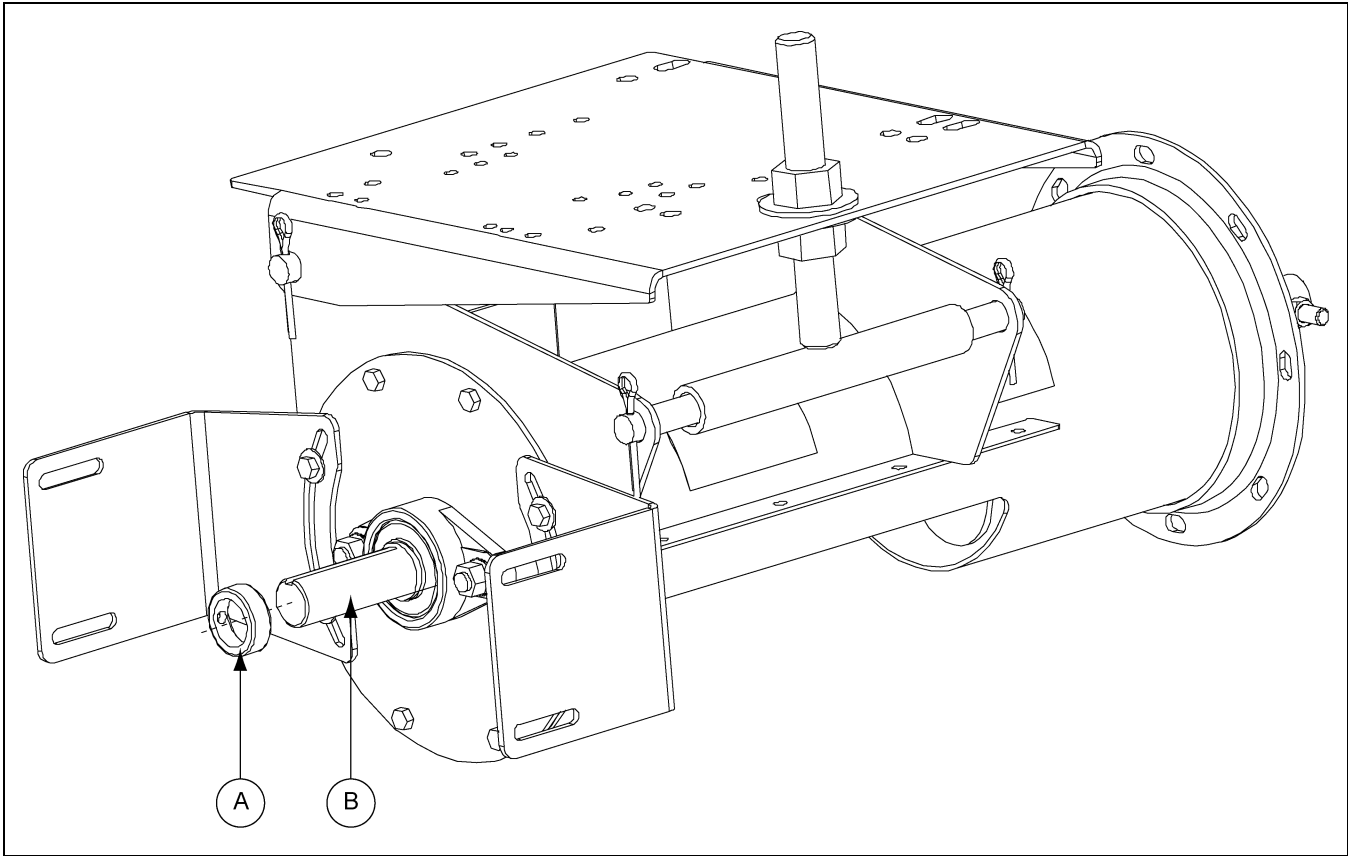

Figure 4H
1. Slide the lock collar (A) over the drive shaft (B), positioning it against the bearing. Do not tighten the lock collar at this time as it will be tightened later in the assembly. (See Figure 4H.)